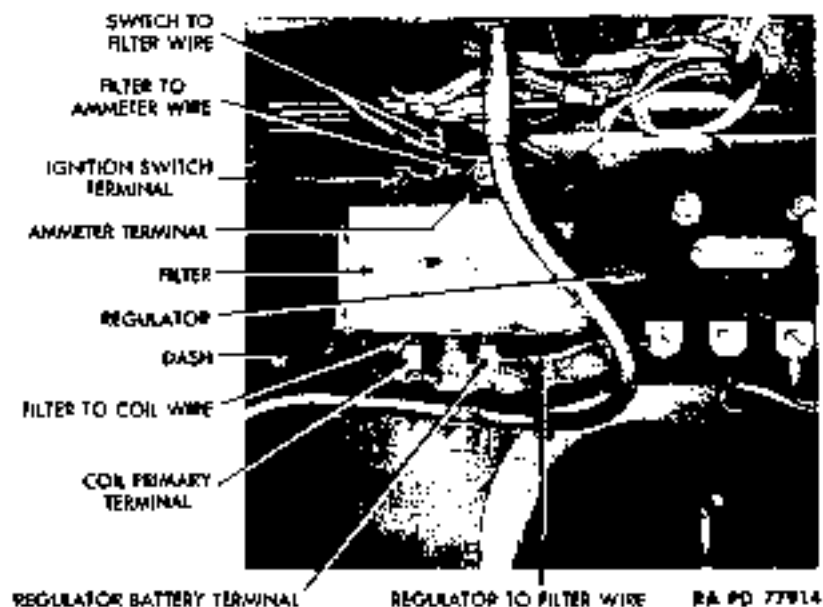

Figure 107 - Dual Unit Filter With Cover Removed
(1) **DESCRIPTION** (fig. 107). Two filter units are combined in a single dual unit filter assembly mounted in driver's compartment on dash to left of regulator. The supply filter unit is connected in series in the generator regulator to ammeter battery circuit. The ignition filter unit is connected in series in the ignition switch to coil circuit. Each unit consists of a coil and one or more condensers connected internally in a grounded metal can. The filters cut down radio interference without interfering with the flow of current.